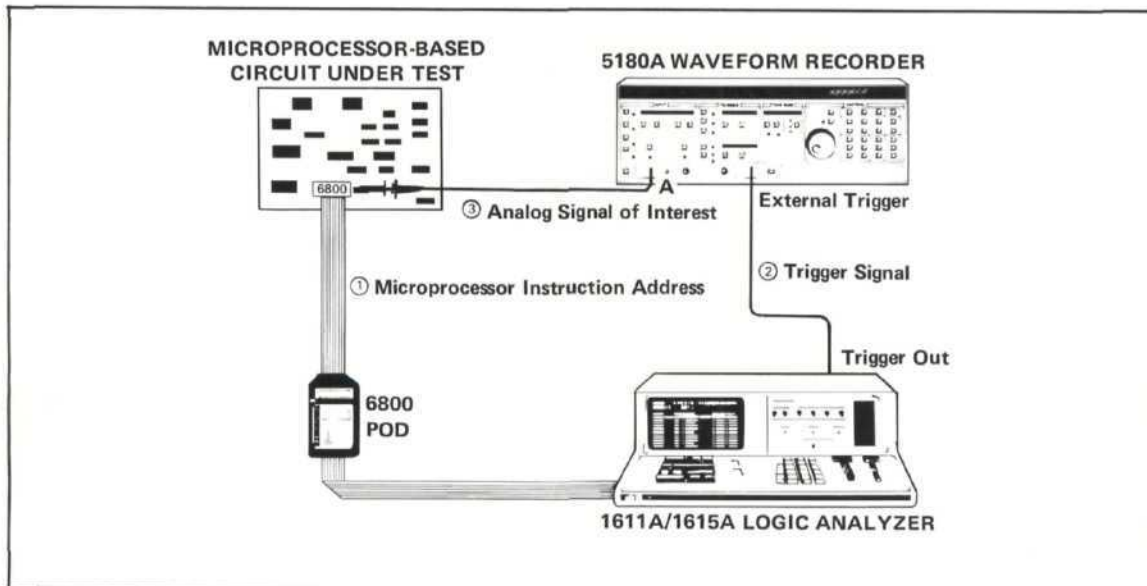

Figure 1. Signal flow from test circuit to logic analyzer and 5180A waveform recorder.
The general arrangement of instruments and signal flow for this application are shown in Figure 1. First of all, (1), the microprocessor instruction address is read continuously by the logic analyzer. When the address of interest reaches the logic analyzer, a trigger signal (2), is sent to the 5180A's external trigger input. This causes the analog signal (3) from the circuit to be recorded, storing the waveform samples beginning an exact time either before or after the trigger signal reaches the 5180A.